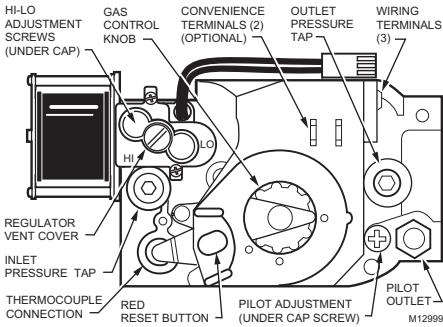

Fig. 3. Top view of VR82, VR83, series of two-stage combination gas controls.
1. Remove pilot adjustment cover screw. See Fig. 3 and 4.
4. With main burner operating, check the gas control flow rate using the meter clocking method or check pressure using a manometer connected to the outlet pressure tap on the gas control. See Fig. 3.
- a. Remove the pressure regulator adjustment cap (Fig. 3).